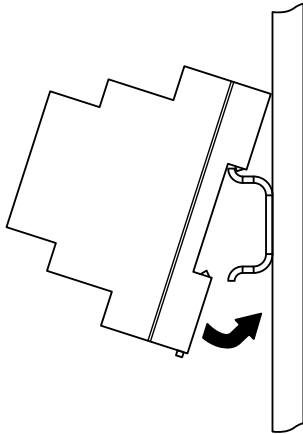
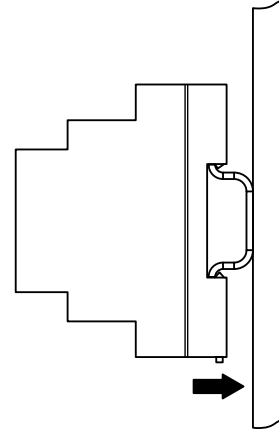
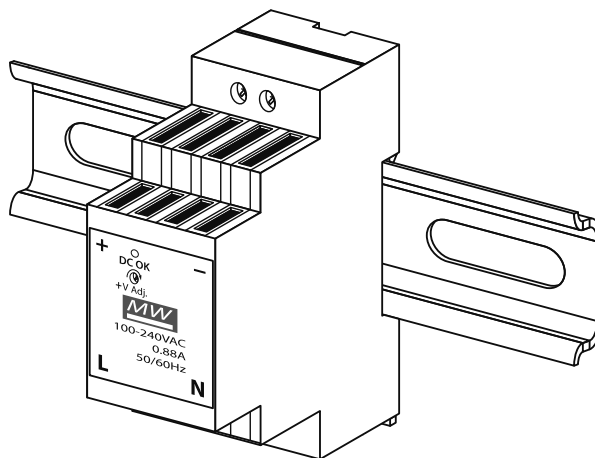

Fig. 22
Fig. 23
Fig. 24
- Fix the power supply to a DIN rail (following **Fig.22**, **Fig.23** and **Fig.24**).
The Art.2270 GSM module can also be mounted following the same instructions for mounting a DIN type power supply (described above following **Fig.22**, **Fig.23** and **Fig.24**) and then making the necessary terminal connections shown in the wiring diagrams on pages 10 -14 (depending on the system setup and configuration).